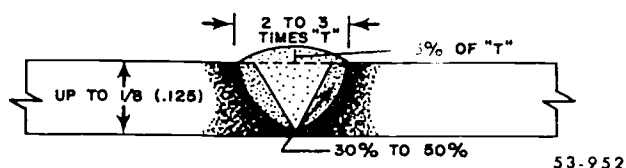

Figure 3-26. Butt joint specifications (steel sheet).
**Butt joint weld requirements.** The welds shown in figures 3-26 and 3-27 illustrate the requirements for butt joints on steel plates with a thickness of 3/16 inch and over. The width of the fusion zone for thick plates is governed by the way in which you prepare the joint. When you bevel the edges, the weld should be approximately 1/8 inch wider than the included angle of the bevel. The depth of fusion in the beveled edges of the joint should be at least 1/16 inch. A height of reinforcement of 1/8 inch is usually sufficient for heavy plate. The penetration for butt welds must be 100 percent, regardless of the thickness of the plates. For double-edged penetration, you obtain 50 percent of penetration from each side to produce the desired full base metal penetration.